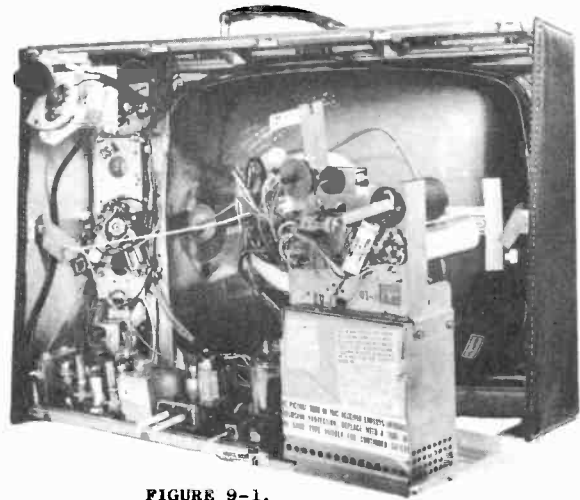

FIGURE 9-1.
To replace component parts on low (LV) voltage and hi (HV) voltage sub-chassis, pull chassis out as shown in Fig. 9-1 for easy accessibility.